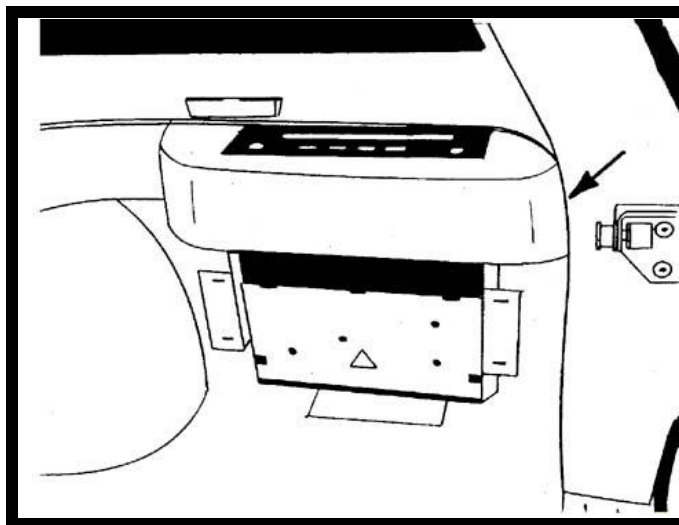

FIGURE 6
6. Carefully position housing top (item 4 pg 2) on VCP and slide VCP rearward until housing contacts plastic panel. Mark position of bracket and remove housing and VCP. Install (3) three #8 x 1 1/2" (item 2 pg 2) in holes in bracket and tighten (1) one screw previously installed. **NOTE: Do not overtighten screws.** See Figure 6.